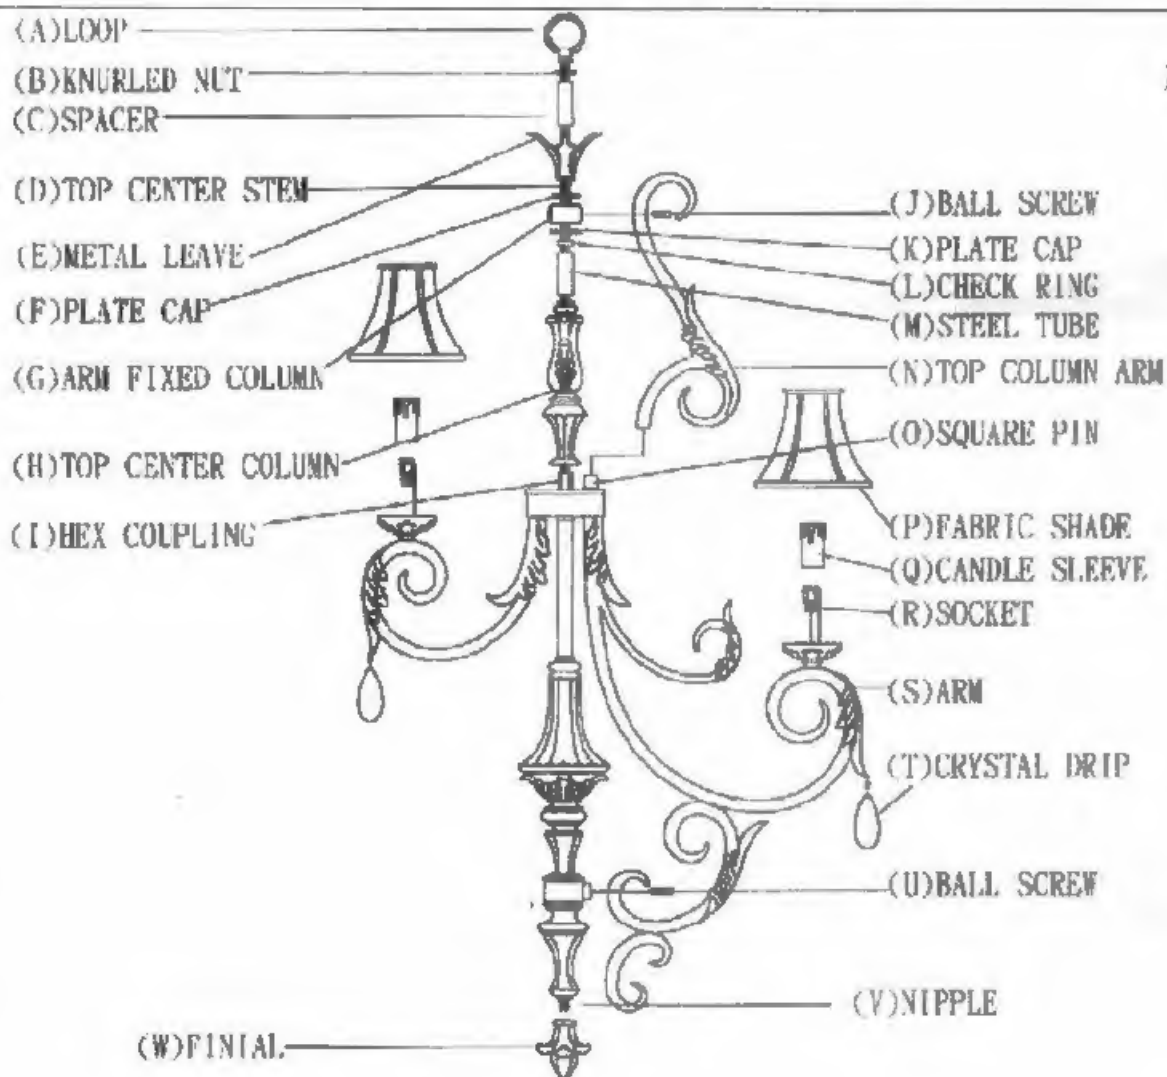

Fig.1
ASSEMBLY THE FIXTURE (Fig.1)
2. Thread the Center stem (D) into the hex coupling (I) Thread until snug.
3. Place top center column (H), Steel tube (M), Check ring (L), Plate cap (K), Arm fixed column (G), top plate cap (F), metal leave (E) and Spacer (C) onto the Center stem (D) in turns. (See Fig.1), Secured the top column section by thread the knurled nut (B) from the top of the center stem (D).
4. Thread the Loop (A) onto the top of the center stem (D). Thread until snug.
5. Attach the top arm (N) onto the center top column assembly by through the square pin (O) into the bottom hole of the arm (N). Thread the ball screw (J) through the hole on the top of the arm and connect to the arm center column by thread the ball screw till tight. The top column assembly was completed.
6. Thread finial(W) onto the nipple(V) till taut.
7. Spread the 6 arms (S) to evenly position. Attach the arm on to the lower center column by using the ball screw (U). Thread until snug.
8. Place the Candle sleeve (Q) onto the socket (R). Install the correct type and wattage of bulb as the wattage label on the sleeve shows. Clip the Fabric shade (P) onto the bulb.
9. Hang the crystal drips (T) to the front edge of the metal leave on each arm.